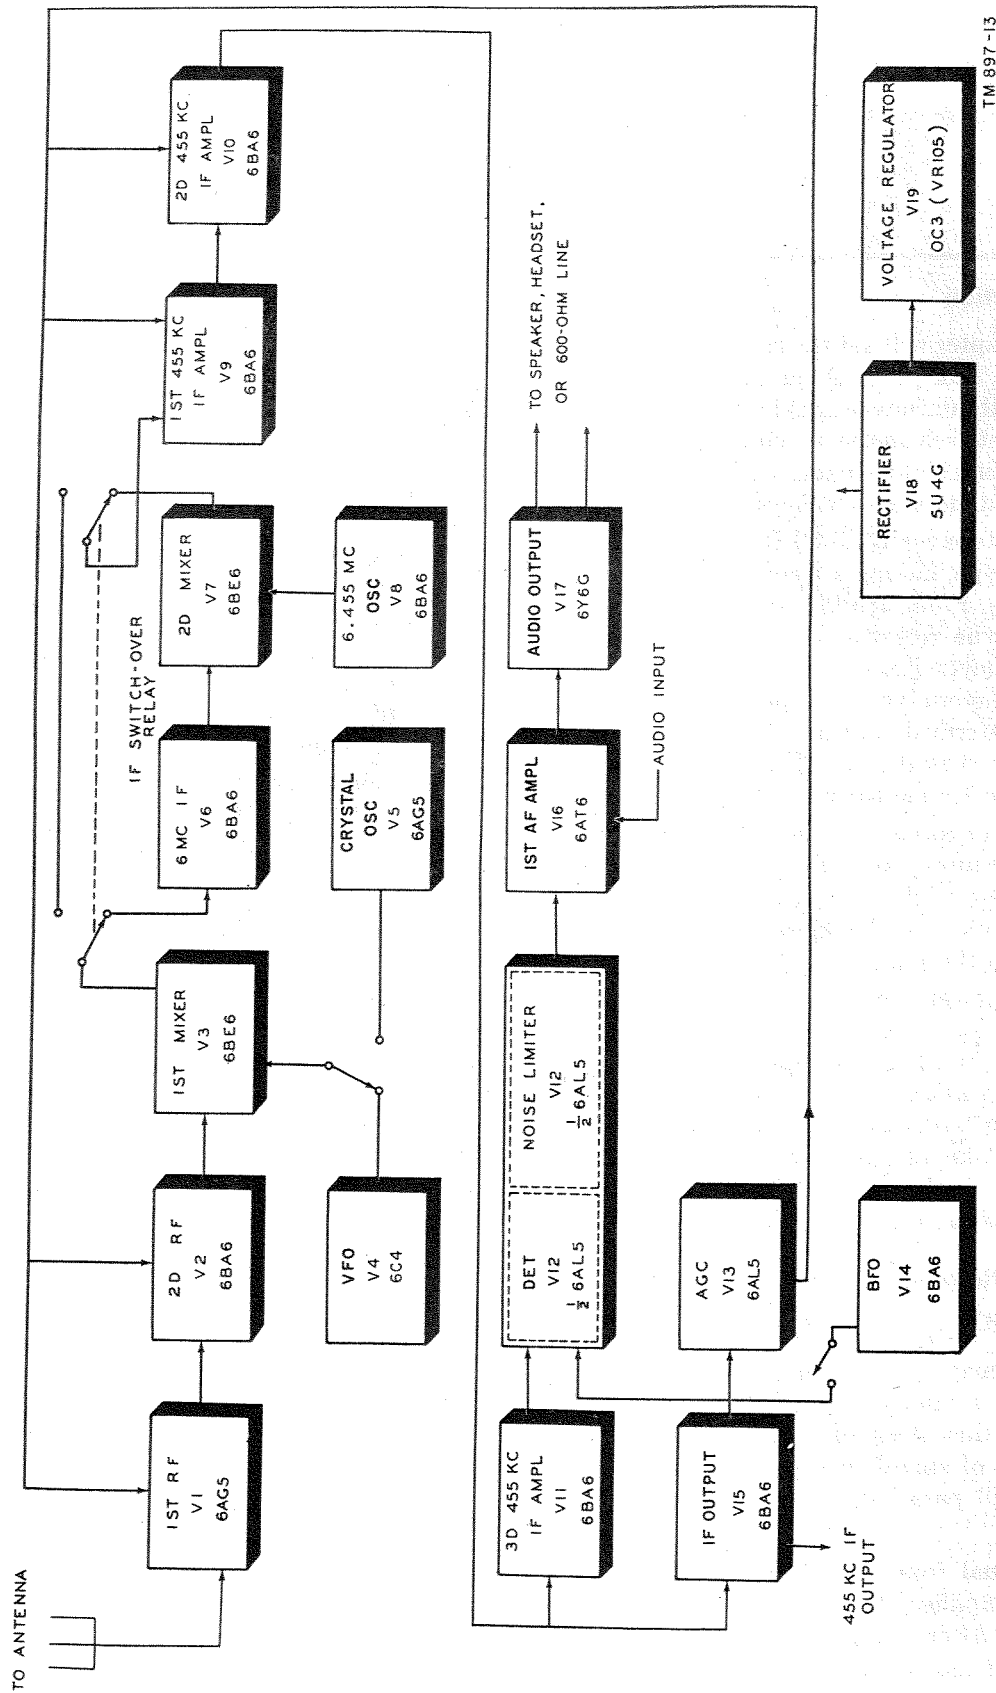

Figure 13. Radio Receiver R-274/FRH, block diagram.
(fig. 13)
a. The signal path through Radio Receiver R-274/FRR is shown in the block diagram (fig. 13). Study this block diagram and fix in mind the sequence of stages through which the incoming signal will pass before it reaches the output terminals.